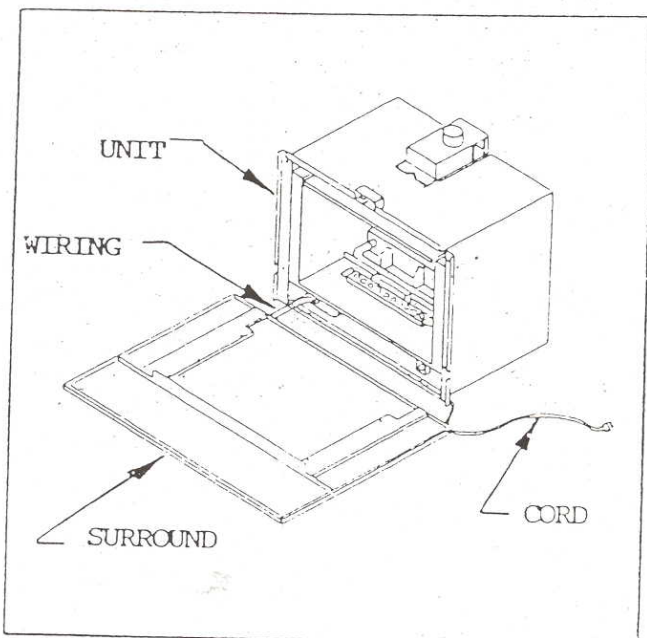

FIGURE 4
This unit comes with a removable front surround to allow access for gas line hook-up and venting hook-up. To remove the front surround, carefully remove the glass door assembly from the unit. Loosen and remove the top glass retainer from the unit. Remove the two (2) screws at the bottom corners of the front surround and CAREFULLY pull the surround out away from and lay it down in front of the unit. See Figure 4.